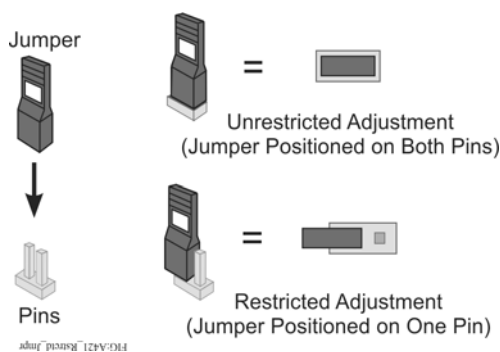

Figure 10: Repositioning the Jumper to Restrict Control Adjustment
1. Ensure that the DTC1 is not in the restricted mode (the jumper is positioned on both pins). See Figure 10.
4. Disconnect power to the control and reposition the jumper to one pin (Figure 10). Reconnect power.